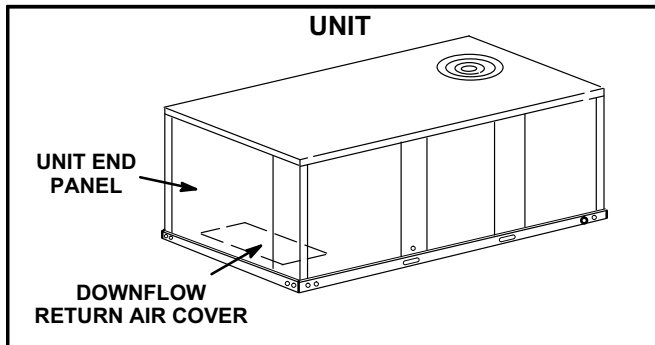

FIGURE 11
- 1- Remove unit end panel. See figure 11.
- 2- Install the downflow return air cover in horizontal airflow applications. Secure with #10 sheet metal screws provided in kit. See figure 11.